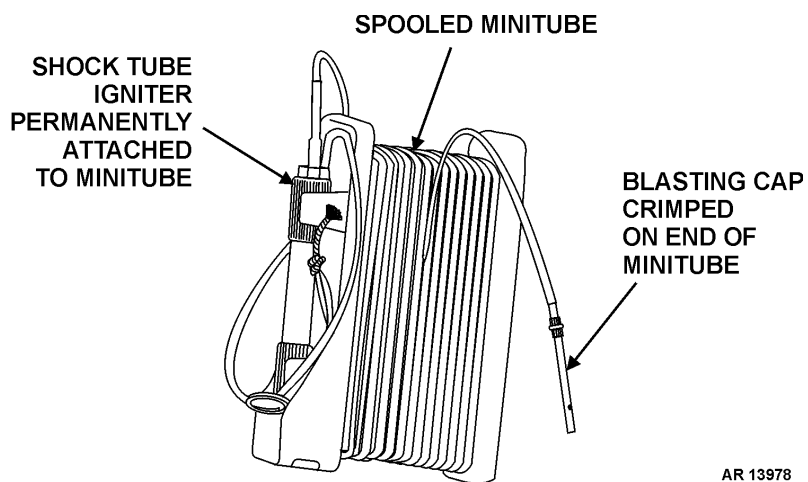

Figure 2-12.4. Non-electric blasting cap assembly with factory crimped blasting cap and permanently attached shock tube igniter.
- (2) Remove tape and unspool shock tube from plastic spool beginning from blasting cap assembly (fig. 2-12.4). Hold blasting cap while unwinding approximately 3 meters of shock tube.